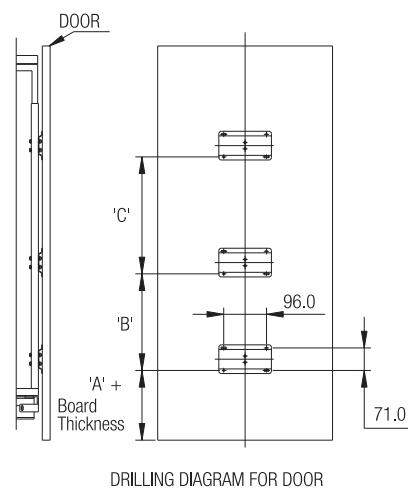

Fig. 5
8. Drilling diagram for door as per Fig.5. Horizontal adjustment of door is possible with oval holes.